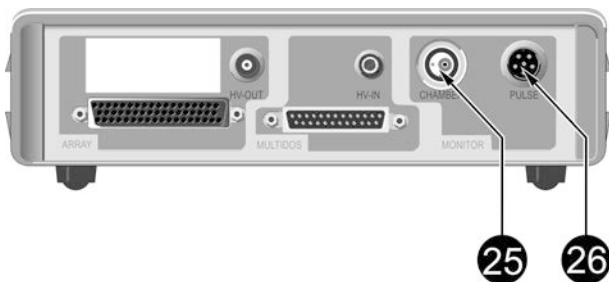

Figure 8-7: Reference chamber **25** and pulse signal (accelerator) **26** ports
- Connect the reference chamber to port **25** (Figure 8-7) of the extender ME48, the monitor signal to port **26**.